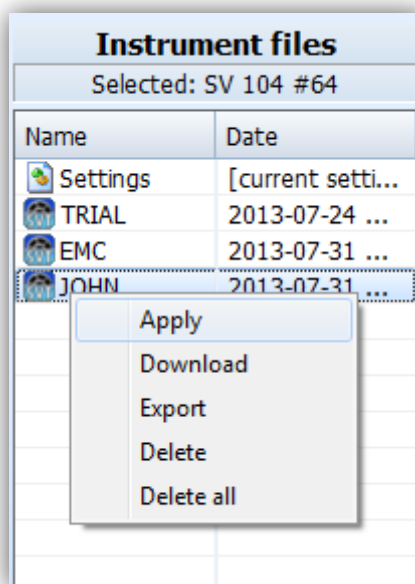

Figure 5-6 Instrument files panel and context commands
10. Once copied select the copied file in the Instrument files, and right click onto it to open context menu. Then choose **"Apply"** command (Figure 5-6). Alternatively you can enter the **"Load Setup"** menu directly in the instrument and load it as the current configuration. See chapter 4.6 for details.